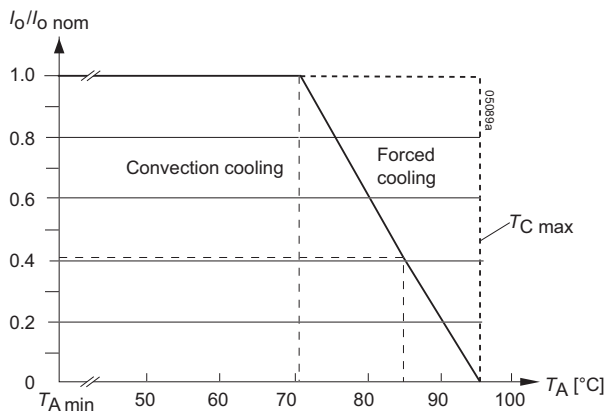

Fig. 7
**Notes:** Sufficient forced cooling or an additional heat sink allows  $T_A$  to be higher than 71 °C (e.g., 85 °C), as long as  $T_{C \max}$  is not exceeded. Details are specified in fig.7